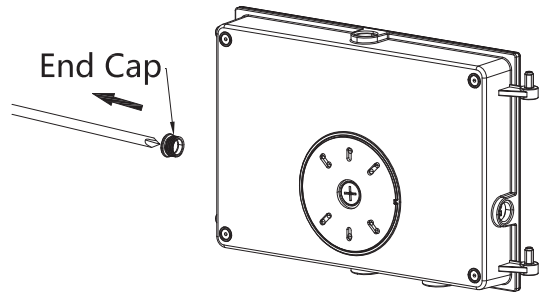

Fig. 12
4. Remove the end cap plug from the side of the back plate where the supply wires will be fed in and affix the foam gasket to the back of the fixture using the adhesive side of the gasket. (See Fig. 12)